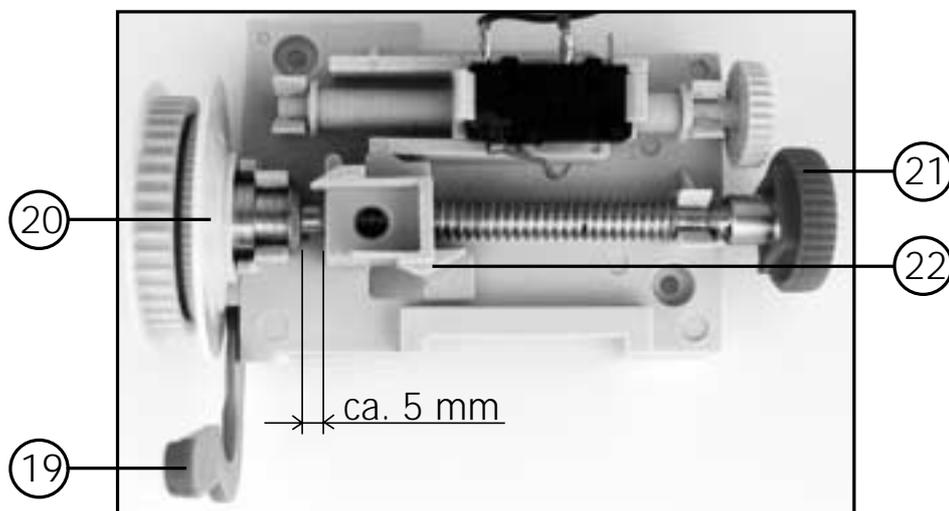

Fig. 10: Setting the reference point (door is closed)
- Unlock the switching spindle by moving the red no-load lever (19) to the front and by pushing the inner door link disk (20) in direction of spindle (see fig. 10).
- Turn the knurled wheel (21) clockwise until the carriage (22) is approx. 5 mm before the chamfered end of the switching spindle (see fig. 10).